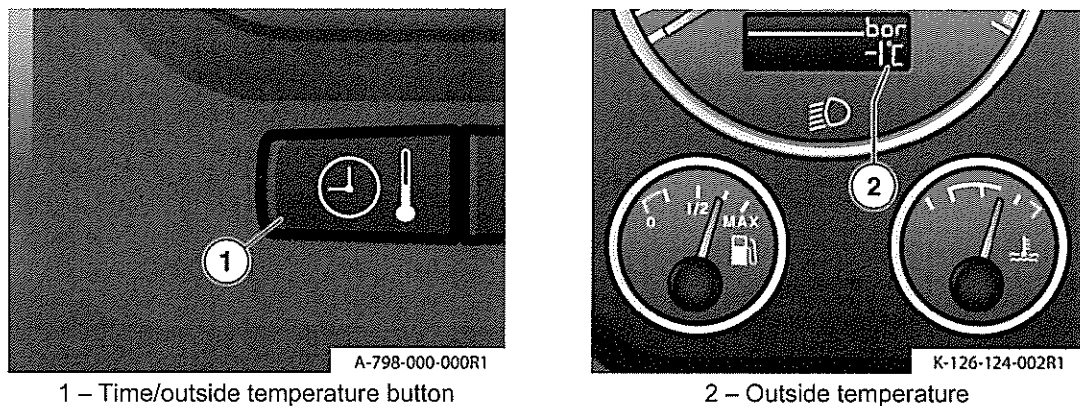

Fig 32 Displaying time or outside temperature
77 Refer to Fig 32. The displayed outside temperature may be slightly higher than the actual outside temperature. The difference is due to the heat from the engine and the heater if the vehicle is stationary or travelling at very low speed.
78 Refer to Fig 32. Briefly press the time/outside temperature button (1) to switch the display between the time and the outside temperature. The illustration shows an example outside temperature (2).